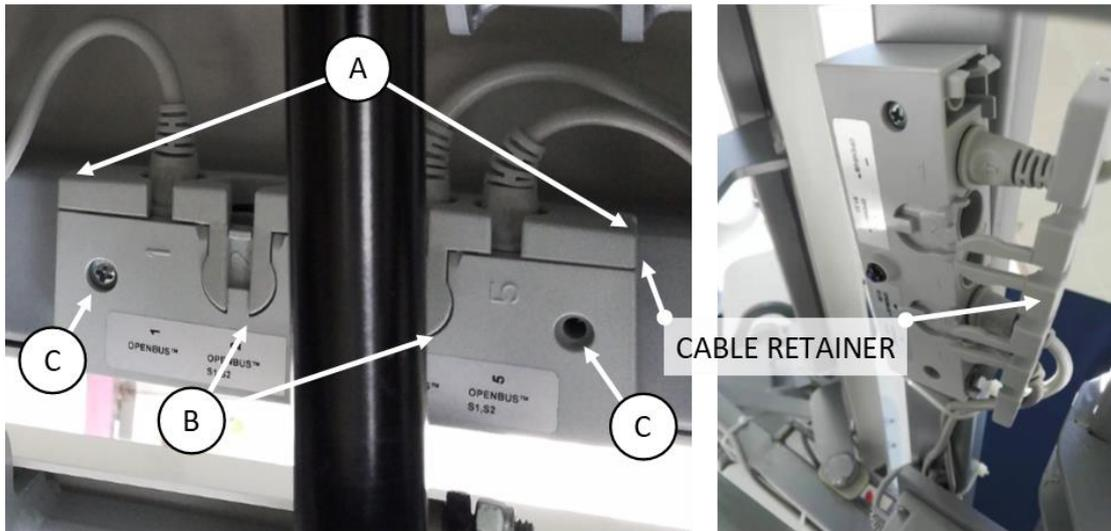

Figure 18: Junction Box with Cable Retainer
- b) Release junction box cable retainer (8) by inserting a small flat screwdriver into the slots on the front of the junction box to release the clips (A) (refer figure 18).
- c) Pry off retainer by inserting screwdriver under the two tabs (B) on the bottom face of the junction box (figure 18).
- e) Unplug the control cables (10, 11 & 22) and blanking plug/s (9) (if fitted) from the junction box.
- f) Remove two pan head self-tapping screws (C) securing the junction box to the bed frame (figure 18).
- b) Release junction box (8) cable retainer by inserting a small flat screwdriver into the slots (A) on the front of the junction box and pry off tabs (B) – refer figure 18
- b) Release junction box (8) cable retainer by inserting a small flat screwdriver into the slots on the front of the junction box to release the clips refer section 19, figure 18.
- d) Unplug the attendant control (22) cable from the junction box (8).
- e) Cut and remove cable ties securing attendant control (22) cable to the bed frame.